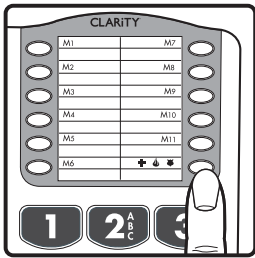

Figure 9
Phone numbers can be stored into the phone's memory to enable one-button dialing. The phone directory allows space for twelve (12) different phone numbers. One space is marked to be used to store an emergency number. See Figure 9.